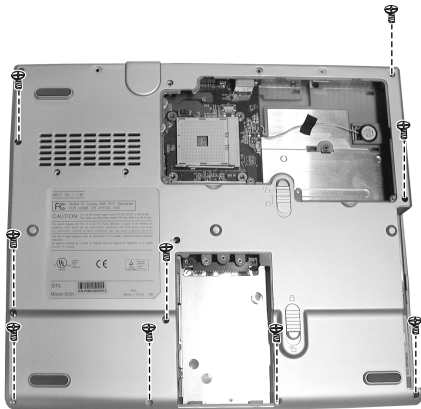

Figure 2-26 Unscrew nine screws
4. Remove nine screws on the bottom of notebook. (Figure 2-26)